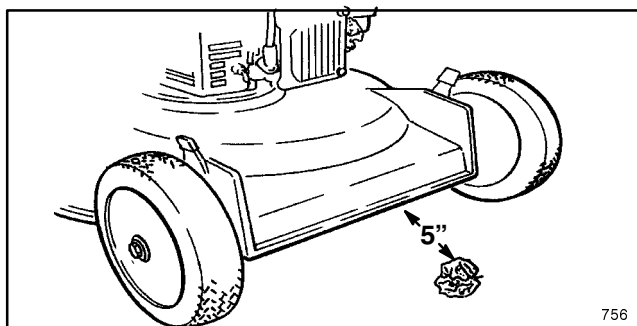

Figure 2
4. Take a half sheet of newspaper and crumple it into a ball small enough to go under deck (approx. three inches in diameter) (Fig. 2).
5. Place ball of newspaper five inches in front of mower (Fig. 2).